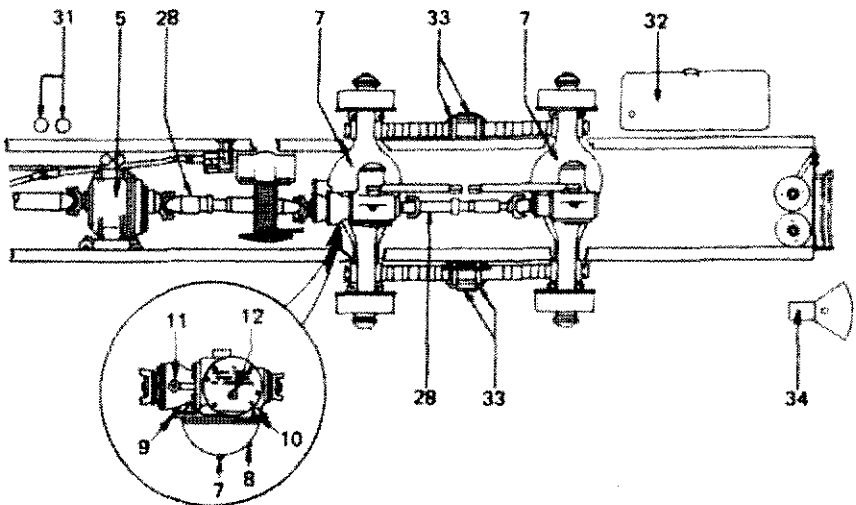

Fig. 29 Chassis and components identification (rear section)
### **Transfer case (See fig. 29 item 5)**
### **Rear axles (See fig. 29 item 7)**
### **Fuel filters (See fig. 29 item 31)**
### **Fuel tank (See fig. 29 item 32)**
### **Trunnion bushes (See fig. 29 item 33)**
### **Pintle hook (See fig. 29 item 34)**